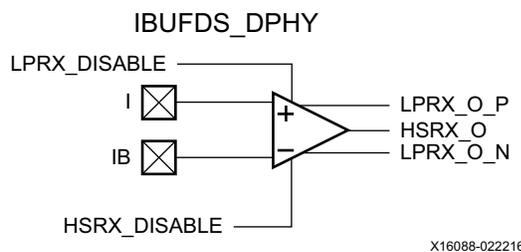

Figure 1-29: Differential Input Buffer Primitive (IBUFDS\_DPHY)
The differential input buffer primitive (IBUFDS\_DPHY) is only supported in the HP I/O banks in Virtex UltraScale+ devices (Figure 1-29), Kintex UltraScale+ devices, Artix UltraScale+ devices, and Zynq UltraScale+ devices. This UltraScale architecture specific primitive is specifically meant for MIPI D-PHY receiver implementation. The HSRX\_DISABLE port is used to enable or disable the MIPI D-PHY high-speed (HS) receiver. The LPRX\_DISABLE port is used to enable or disable the low-power (LP) receiver. HSRX\_O and LPRX\_O(P/\_N) are inputs to the interconnect logic from the HS and LP receivers, respectively. The primitive only supports MIPI\_DPHY\_DCI as the value for the IOSTANDARD attribute.